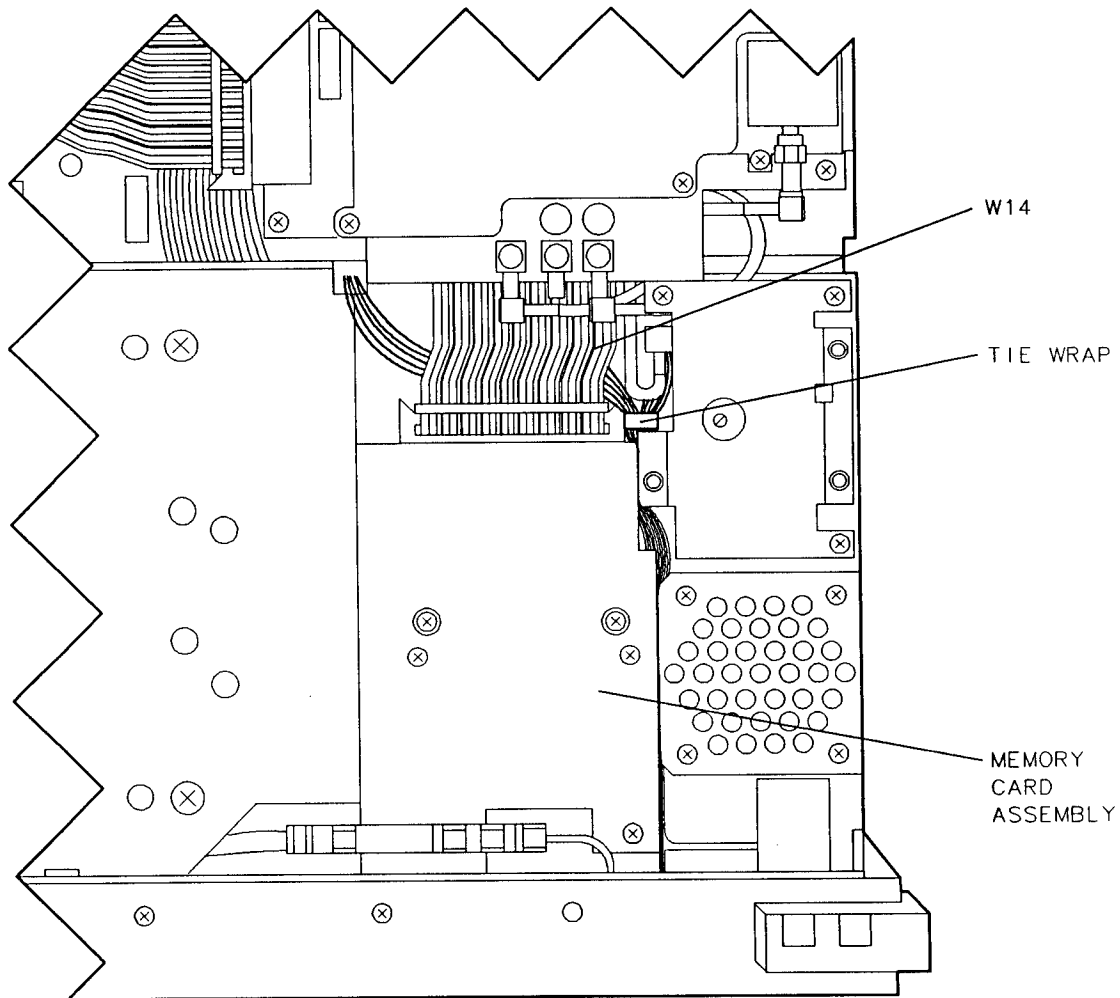

Figure 6. Routing of Cables
17. Use a tie wrap to bundle the speaker cable, the volume cable, and the wires to the line switch. The speaker and the volume cables should be routed under the W14 cable. See Figure 6.